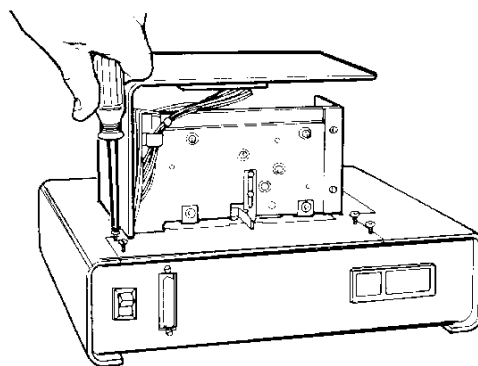

Figure 13. Rear Cover Plate Removal
- 6.1.4 Remove rear cover plate by removing four screws attaching it (See Figure 13).